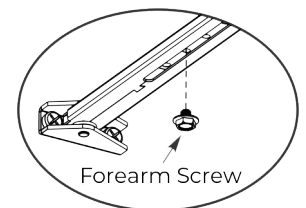

Figure 24
- While holding arm in position, secure rod to adjusting tube with forearm screw. (Figure 24)